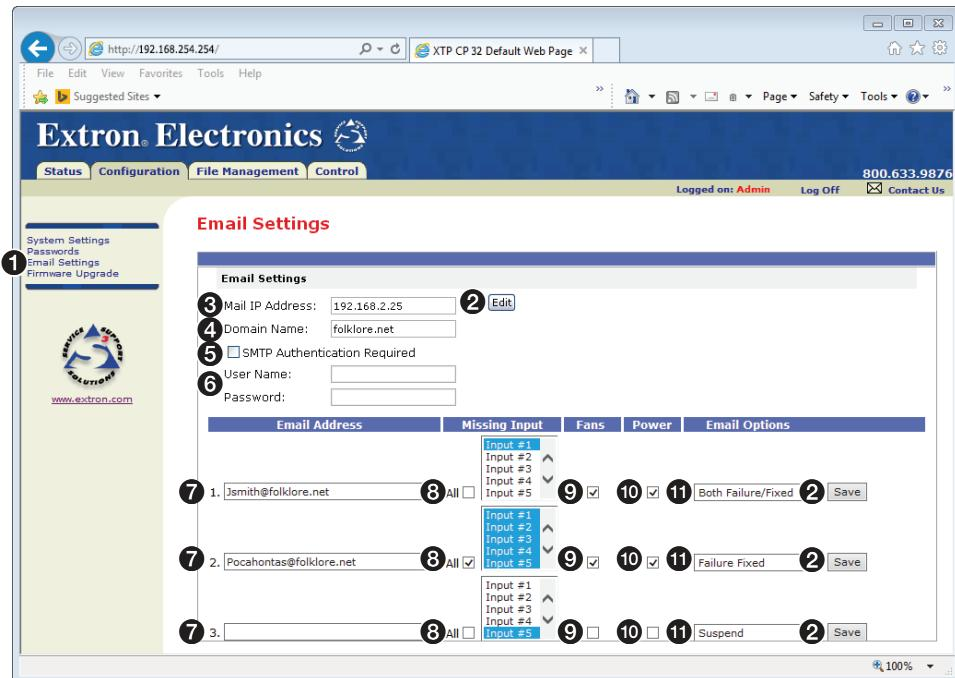

Figure 32. Email Settings Page
Reach the **Email Settings** page by clicking the **Email Settings** link (see figure 32, ①) on the left of the **System Settings**, **Passwords**, or **Firmware Upgrade** page. The **Email Settings** page has fields for setting up the e-mail notification capabilities of the matrix switcher. For the e-mail settings and for each row of the e-mail notification settings, click the **Edit** button (②) to make the fields available for editing. The button changes to **Save**. After editing the settings associated with the **Edit/Save** button, click the **Save** button.
1. Click **Edit** (see **figure 32** on the previous page, **②**). The button changes to **Save**.
2. Check the **SMTP Authorization Required** check box (**⑤**). This enables the **User Name** and **Password** fields below the check box.
3. Enter a user name and a password in the **User Name** and **Password** fields (**⑥**). For the XTP II CrossPoint to accept their e-mail messages, senders must enter the user name and password.